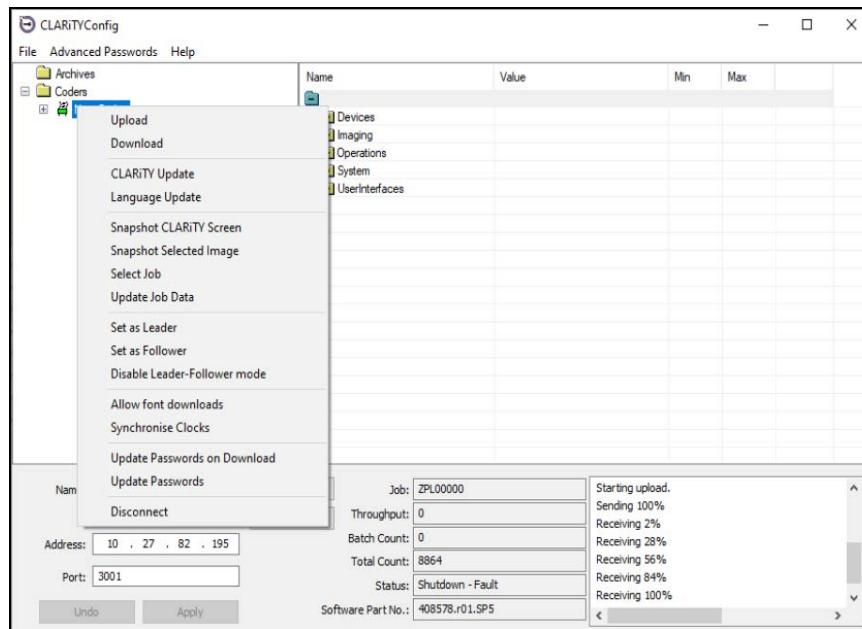

Figure 8-7: CLARiTY Config - Leader Setup
- 2 Right click on the 'New Printer' icon when the icon turns 'green' and Select 'Set as Leader', from the list as shown in Figure 8-7.